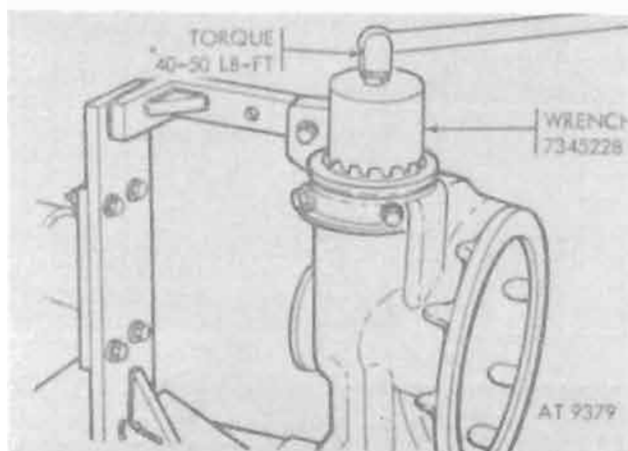

Figure 12-62. Torquing pinion bearing adjusting nut.
h. Install pinion bearing adjusting nut and torque nut to 40-50 lb.-ft., using wrench (7345228) (fig. 12-62).